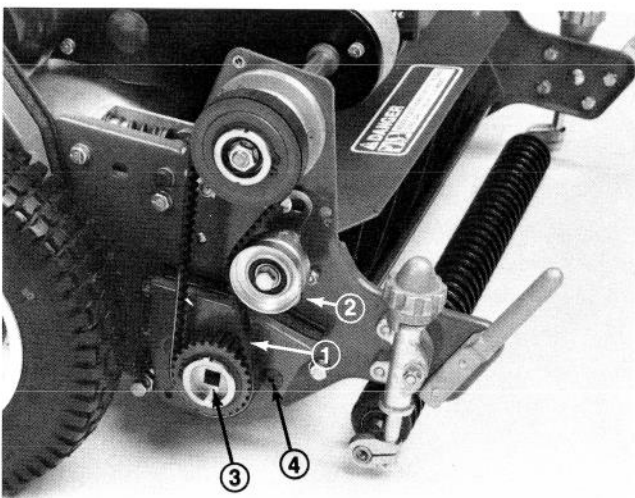

Figure 6
10. Loosen idler pulley mounting screws to relieve belt tension and remove belt from pulleys (Fig. 6).
11. Using a 1/2" drive ratchet and extension, remove drive pulley from reel shaft (Fig. 6). Secure the reel from turning with a wood block.
12. Remove (2) flat head machine screws and nuts securing groomer arm cover to bearing housing and side plate (Fig. 6). Remove groomer arm cover and retain fasteners.
13. Remove (2) capscrews and washers securing right bedbar adjuster frame to side plate (Fig. 6).